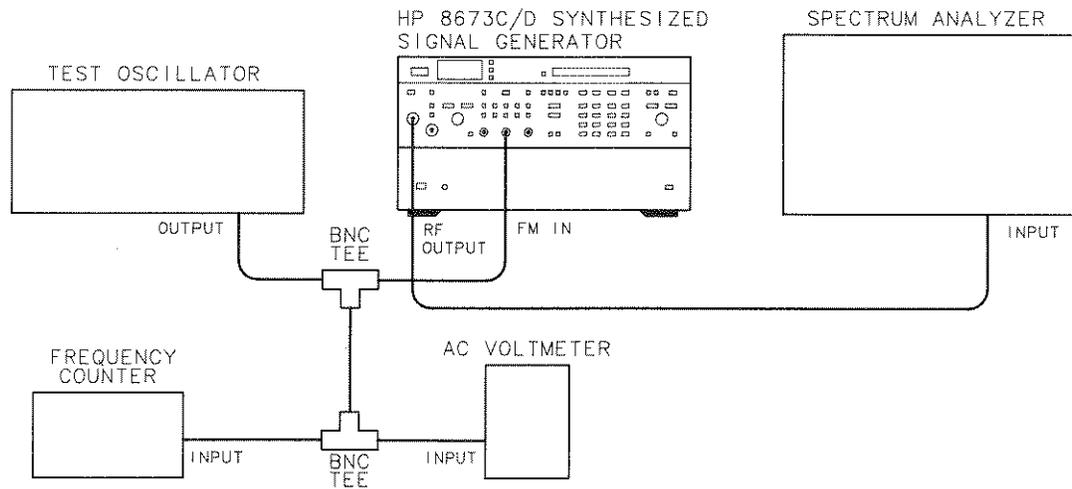

Figure 4-36. FM Frequency Response Test Setup
1. Connect the equipment as shown in Figure 4-36.